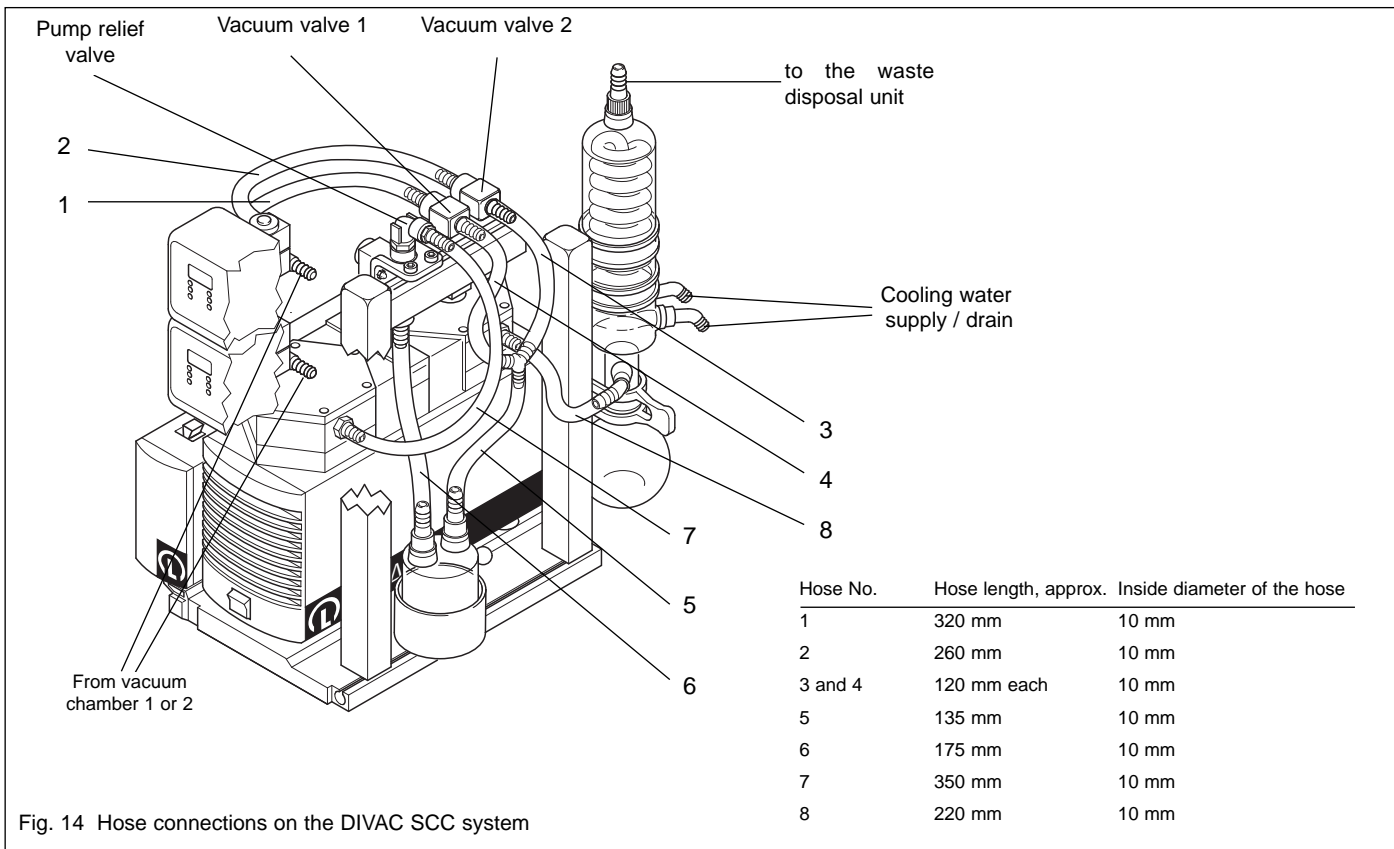

Fig. 14 Hose connections on the DIVAC SCC system
- For hose connections refer to Fig. 14.
- Provide the hose connections according to Fig. 14.